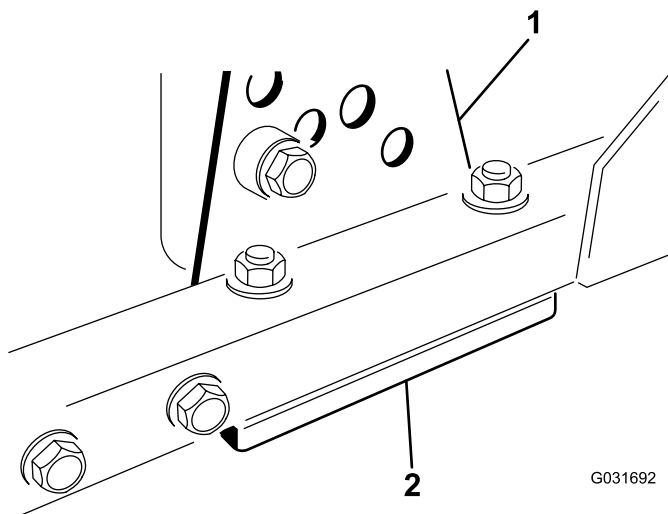

Figure 62
1. Remove the height-of-cut bracket (front, left, or right) from the deck frame (Figure 62).
2. Adjust 1.5 mm (0.060 inch) shims and/or 0.7 mm (0.030 inch) shim between the deck frame and bracket to achieve the desired height setting (Figure 62).